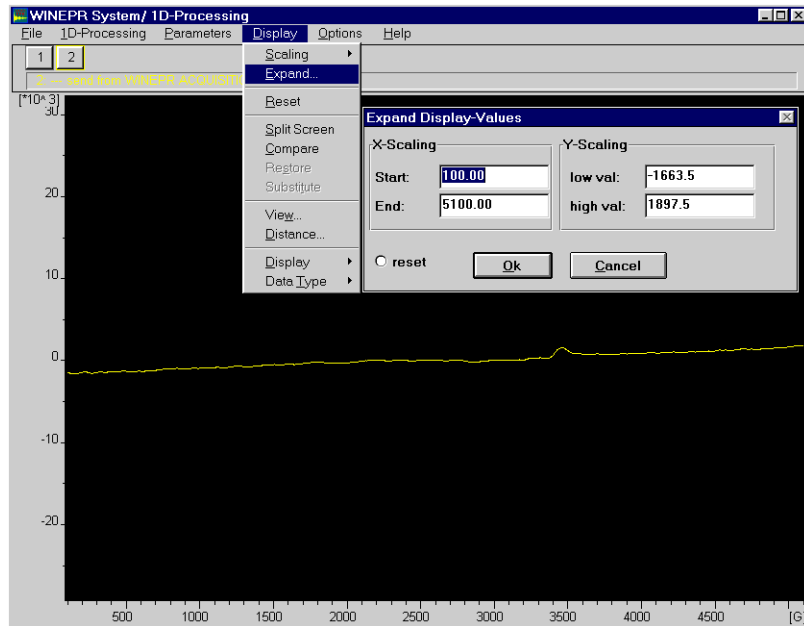

Figure 9-17 Measure the signal height of the cavity background signal.
17. **Measure the cavity background signal.** Click Expand under Display. A box contains Expand Display Values will appear. On the right side of the box there are low val and high val of the Y-Scale. The difference between these two values is the signal height of the cavity background signal. (See Figure 9-17.)